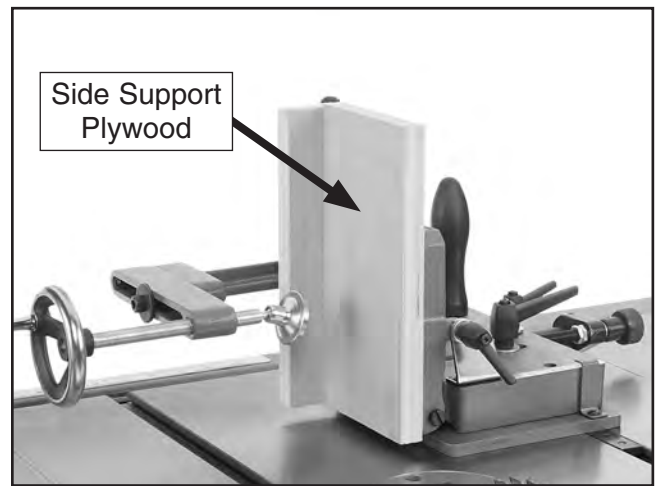

Figure 22. Side support plywood mounted.
5. Cut a piece of plywood that is approximately 5" wide by 9" tall and a minimum of $\frac{3}{4}$ " thick, then mount it to the jig side support, as shown in **Figure 22**.